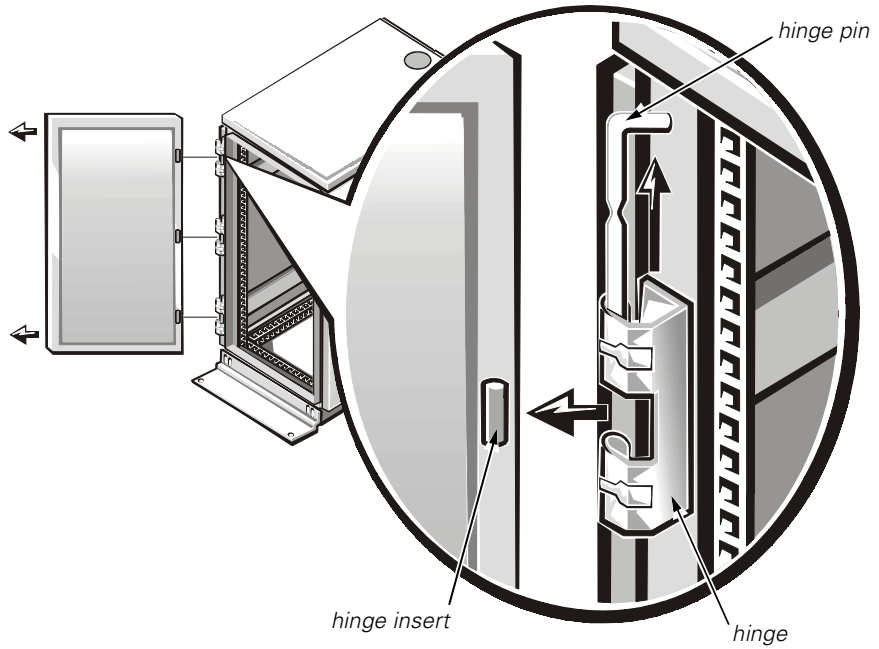

Figure 1-4. Removing the 24-U Rack Cabinet Doors
| Figure 1-4. Removing the 24-U Rack Cabinet Doors | 1-6 |
If you have a 24-U rack cabinet, perform the following steps (see Figure 1-4):
1. Lift the front door into position and align the hinges with the hinge insert in the rack as shown in Figure 1-4.